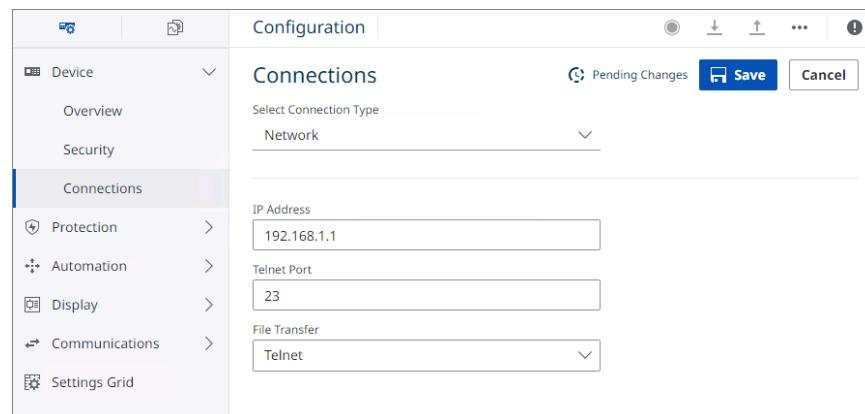
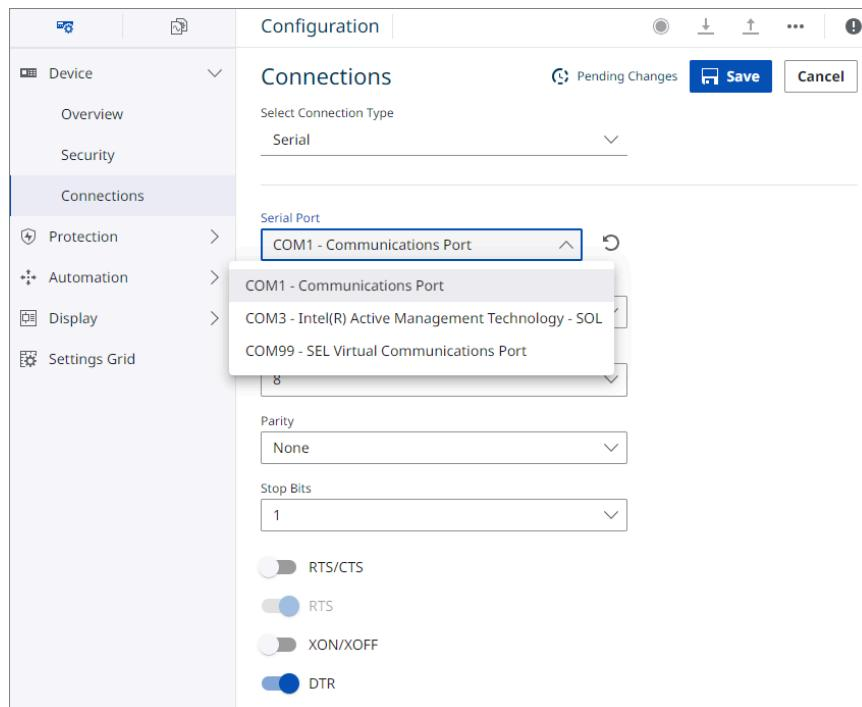

Figure 2.8 Connections View
Figure 2.9 Configuring Communications Options
- Step 8. Select **Device > Connections** under the Configuration perspective of the Device Explorer, as shown in *Figure 2.8*. Then enter the connection parameters for your device, as shown in *Figure 2.9*. SEL Grid Configurator can communicate with devices via serial or network connections.